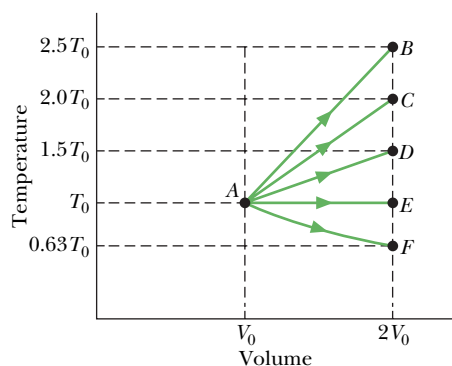

Fig. 20-20 Question 4.
**4** An ideal monatomic gas at initial temperature  $T_0$  (in kelvins) expands from initial volume  $V_0$  to volume  $2V_0$  by each of the five processes indicated in the  $T$ - $V$  diagram of Fig. 20-20. In which process is the expansion (a) isothermal, (b) isobaric (constant pres-